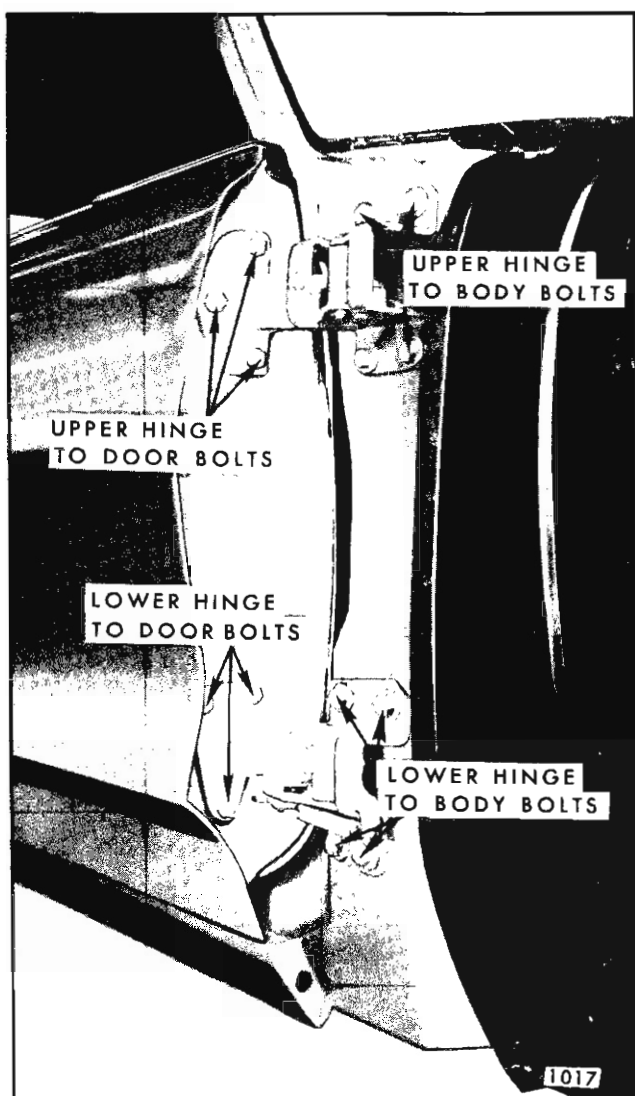

Fig. 1D33—Front Door Hinge Attachment
5. With door properly supported, remove hinge to body or hinge to door attaching bolts depending on removal method being used and remove door from body (Fig. 1D33).